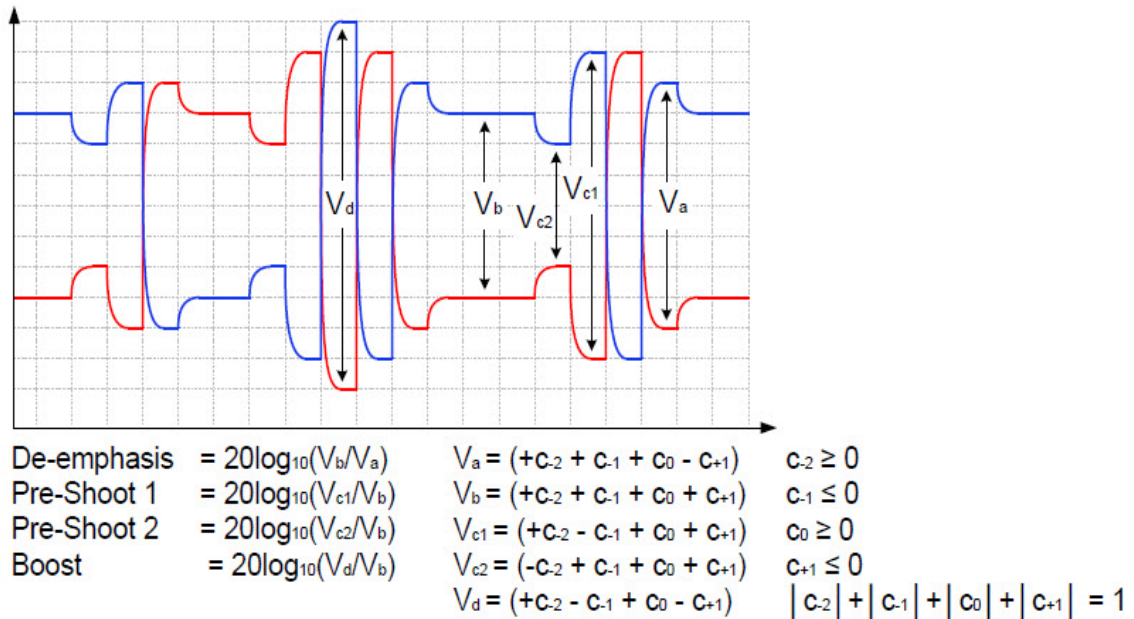

Figure 17 Waveform measurement points for preshoot and de-emphasis
64.0 GT/s PCIe signaling must support the full range of presets given in Table 8-2 (PCI Express Base Specification Revision 6.0). Presets are defined in terms of ratios, relating the pre-cursor and post-cursor equalization voltages. The pre-cursor (V_c) is referred to as pre-shoot, while the post-cursor (V_b) is referred to as de-emphasis. This convention permits the specification to retain the existing 2.5 GT/s and 5.0 GT/s definitions for Tx equalization, where only de-emphasis is defined, and it allows preshoot and de-emphasis to be defined such that each is independent of the other. The tolerances in Table 8-1 (PCI Express Base Specification Revision 6.0) also apply to 2.5 and 5.0 GT/s de-emphasis. The maximum swing, V_d , is also shown to illustrate that, when both c_{+1} and c_{-1} are nonzero, the swing of V_a does not reach the maximum as defined by V_d . The high frequency nature of PCIe signaling makes measurement of single UI pulse heights impractical. Consequently all amplitude measurements are made with low frequency waveforms as shown in Figure 17.
- 13 Computes their equalization voltages by using Matlab, and then calculates equalization ratios by using the formulae stated in Figure 17 (Figure 8-6 of the spec).